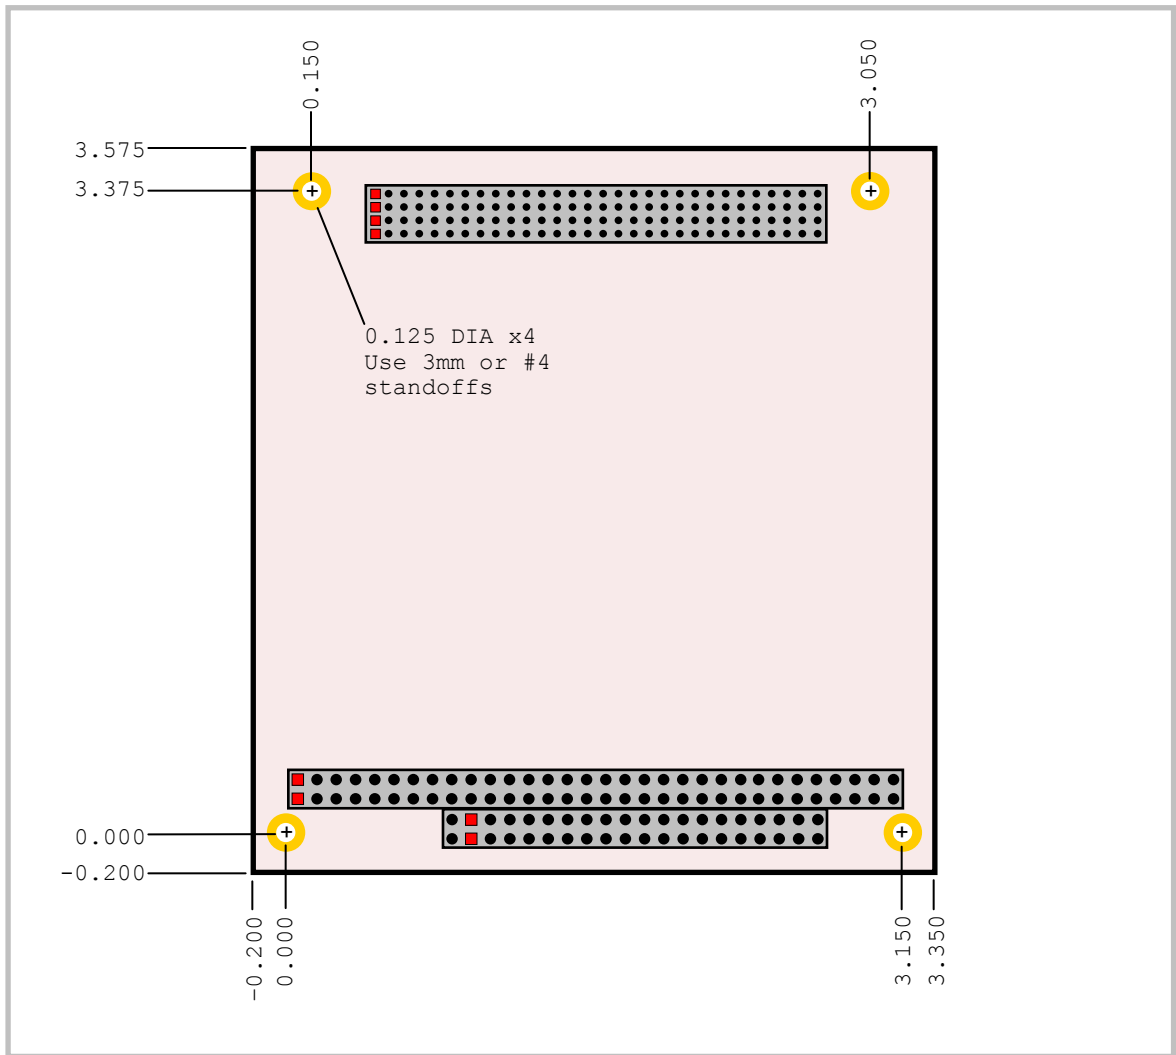

Figure 1. VL-EPM-V4 Dimensions and Mounting Holes
1. Origin is the lower left mounting hole as shown in Figure 1. All coordinates in inches.